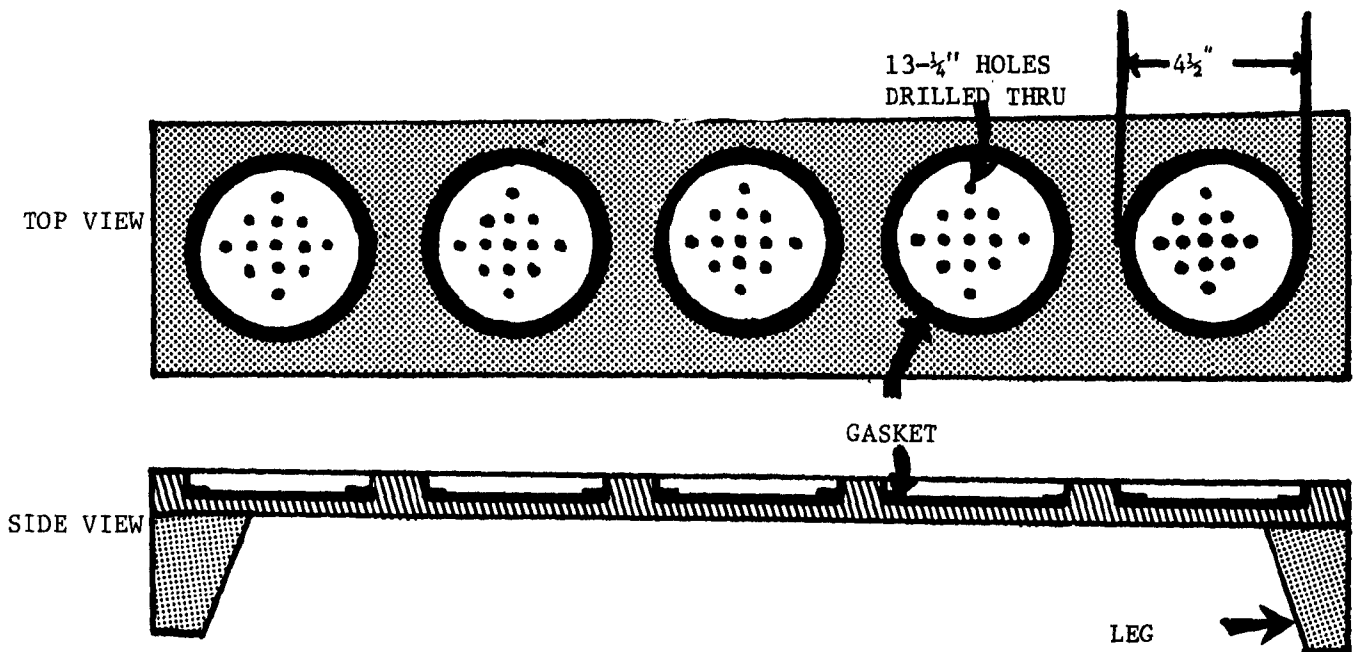

Figure 19
**Step #6:** Operate the motor for 18 hours in the burn-in rack. See Figure 19.
Step #17: Operate the motor for 18 hours in the burn-in rack. See Figure 19.